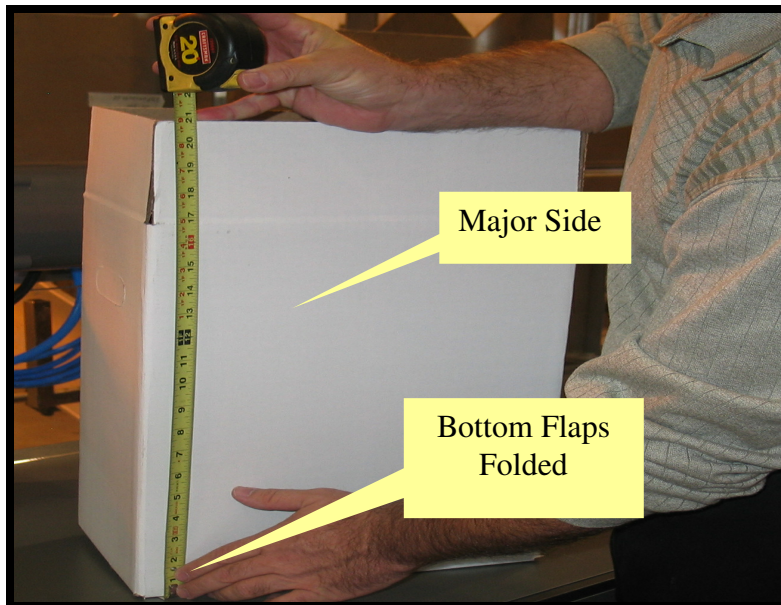

Figure 12 - Measure Height of Case with bottom flaps folded
10 Set the top hold down plate (F) to this measurement (See figure 12)